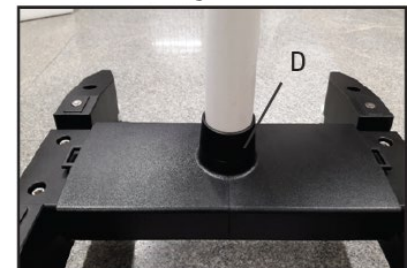

Fig. 37
2. Make sure that during assembly of the column ring D is fixed in place, as shown in Fig.37.